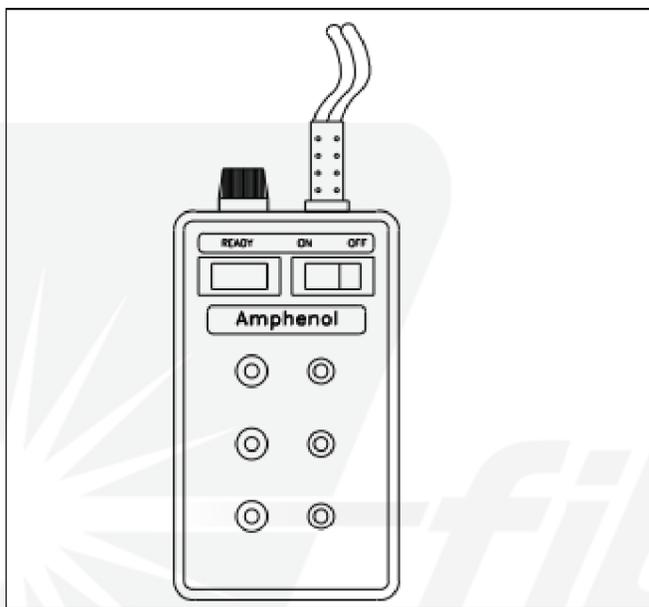

Figure 11: Top view of multi-port curing oven.
13. Use the Amphenol oven (p/n 927-100-2084 for the multi-port oven shown in Figure 11) to provide the proper cure temperature, 140 - 150°C, for the TRA-BOND F253 and Epo-Tek 353ND epoxies. Turn on the oven. The indicator light will illuminate in approximately 3 minutes when the oven has reached the appropriate temperature. Carefully place the connector into the curing oven. The connector is to be heated for 4 minutes. CAUTION: The connector will be hot. The boot, however, does not get hot and can be handled immediately.